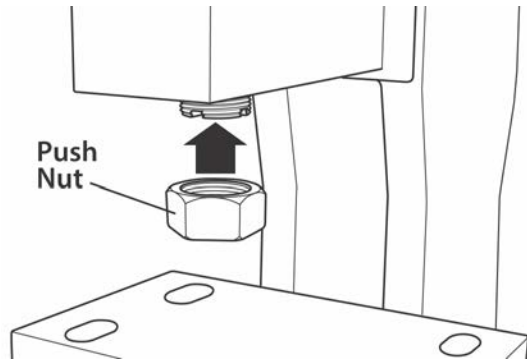

Figure 4
Refer to Figures 4 - 7:
1. Screw Push Nut onto the punch ram threads (see Figure 4). Tighten using the punch nut wrench or adjustable wrench.